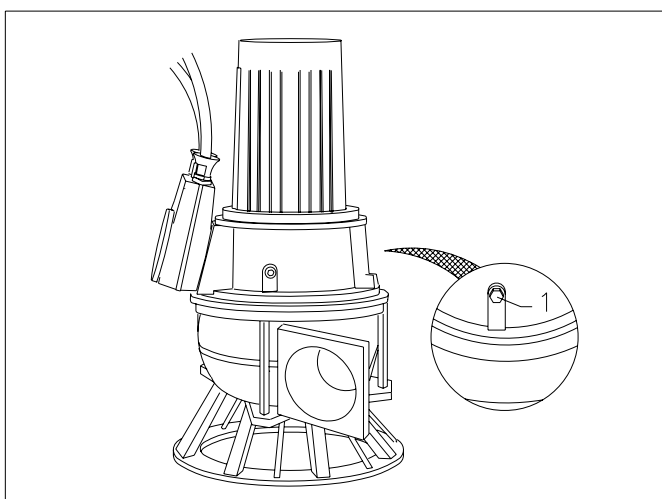

Fig. 7.6
Unscrew the M20 oil plug (1) which can be found at the opposite side of the cable entry box (see fig. 7.6).